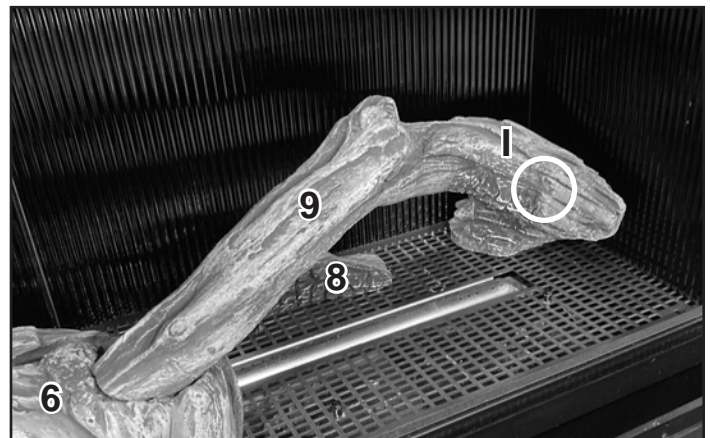

Figure 10 Install Log #9
**Log #9:** Set the left side of Log #9 on the support area of Log #6. Pivot the right side base of the log backward until it contacts the rear log pin (I) for See Through models and those using black glass refractory. See Figure 10. For installations with fiber refractory, the right side will contact the back refractory.